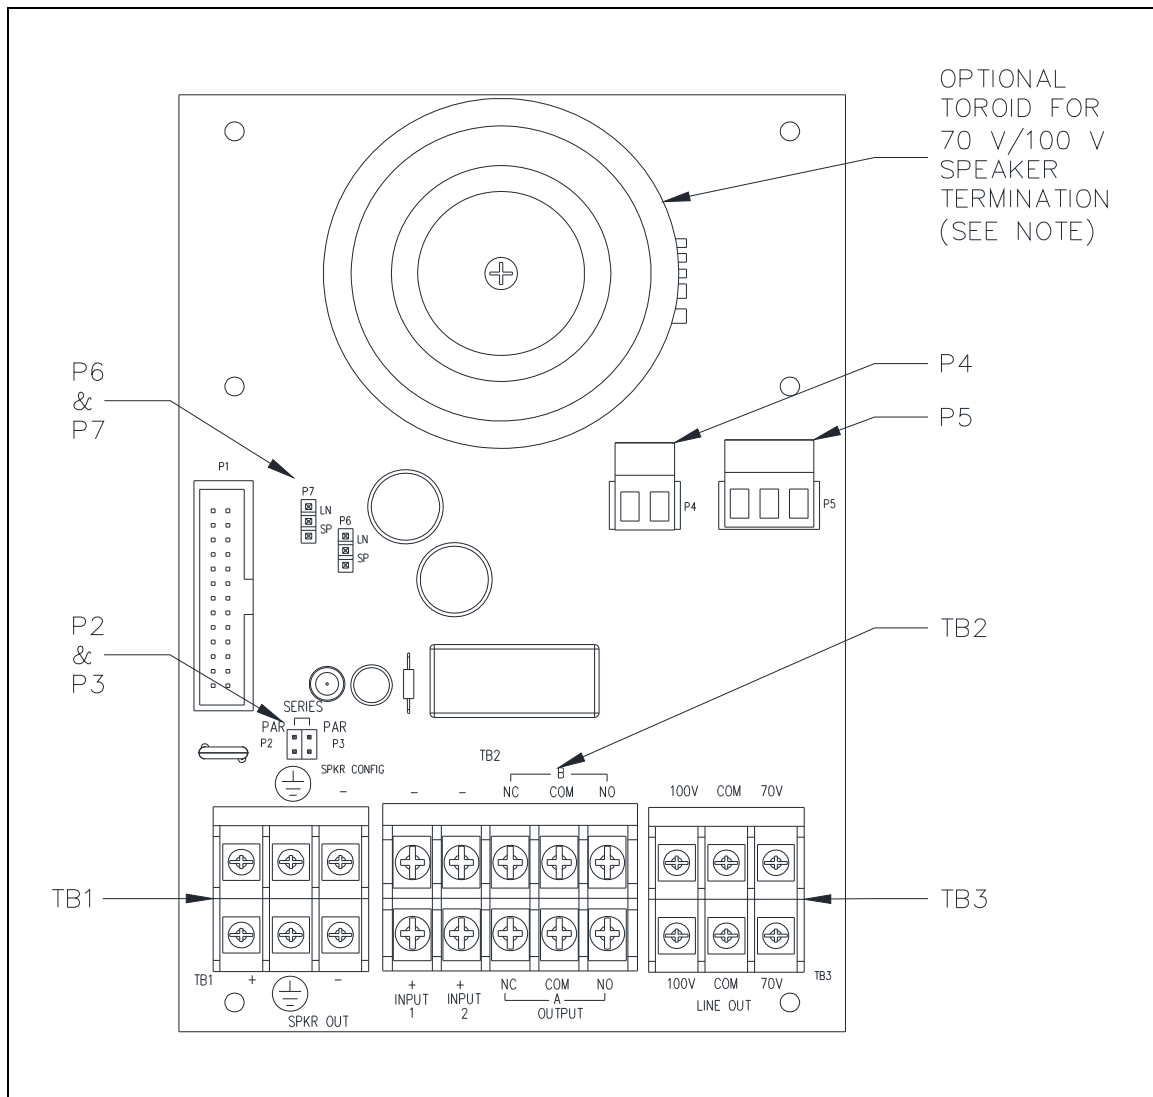
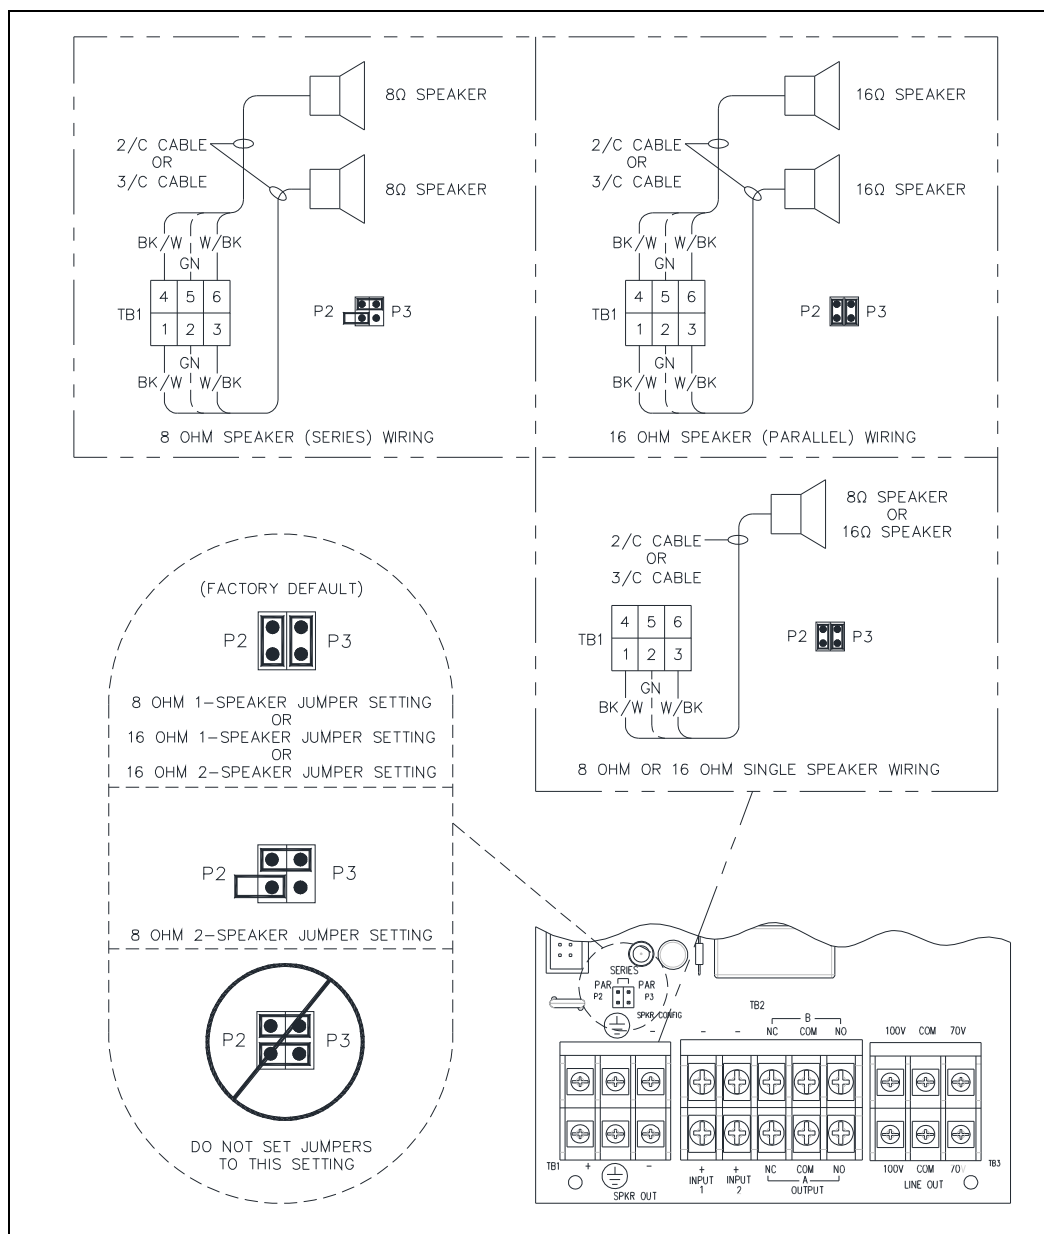
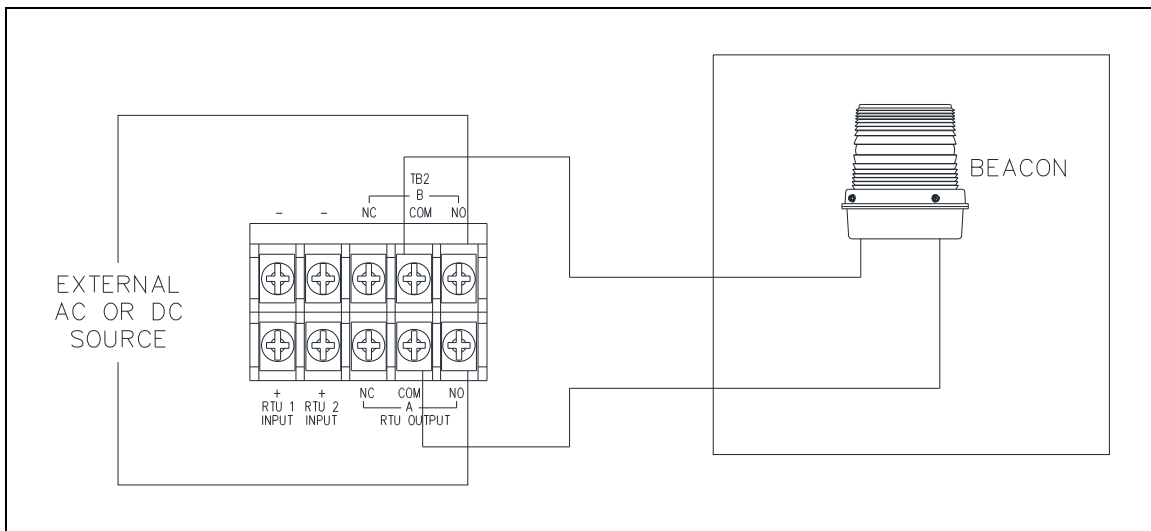

Figure 4. SP2 Termination PCBA (POE Stations)
Figure 5. 8/16-ohm Speaker Impedance Configuration
Figure 6. RTU Output Wiring—TB2
5. Configure the speaker jumpers; P2 and P3, for the appropriate impedance for use with 8-ohm or 16-ohm speakers (see Figure 4 and Figure 5).
Terminal block TB3 on the termination PCBA permits connection of 70-volt and/or 100-volt speakers. All speakers must be wired in parallel (see Figure 4 and Table 2).
5. Configure jumpers P6 and P7 for 70-volt/100-volt operation by moving them to the LN position from the SP position (see Figure 4).
The termination PCBA contains two unsupervised auxiliary RTU inputs. Terminate the inputs at terminal block TB2 (see Figure 4).
A single output relay provides two form “C” contacts to switch external power to a beacon (see Figure 6). Terminate the output at terminal block TB2 on the termination PCBA (see Figure 4).
3. Install the RTU output wires to terminal block TB2 (see Table 4 and Figure 6).